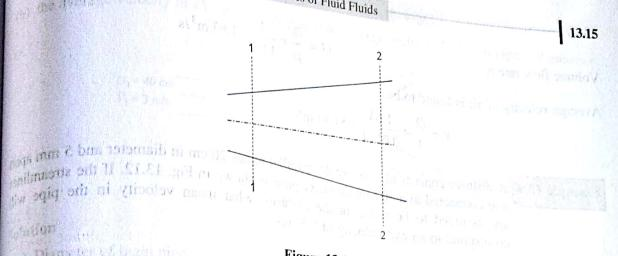

Figure 13.11
**Example 13.7** For the pipe shown in Fig. 13.11, the diameters of the pipe at sections 1-1 and 2-2 are 10 and 20 cm respectively. If the volume flow rate through the pipe is  $0.005 \text{ m}^3/\text{s}$ , find the average velocity at the two sections.